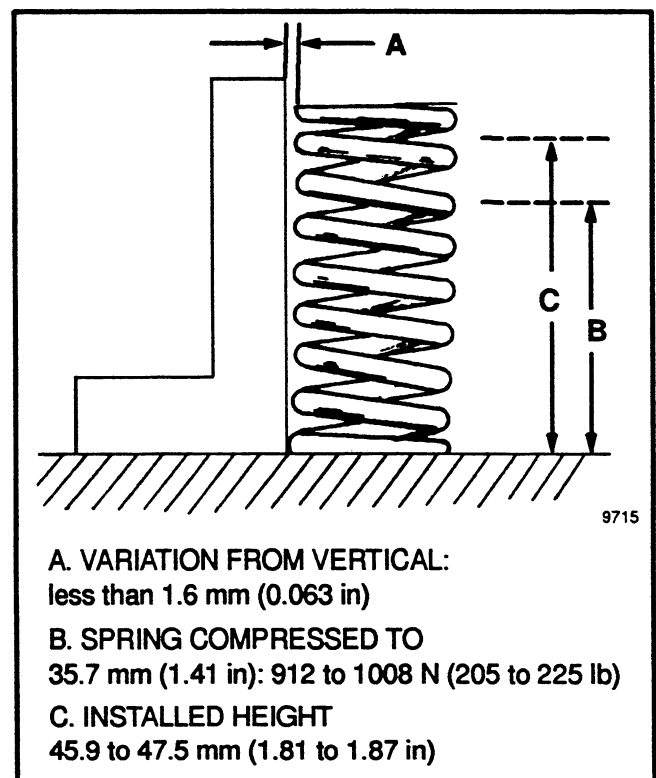
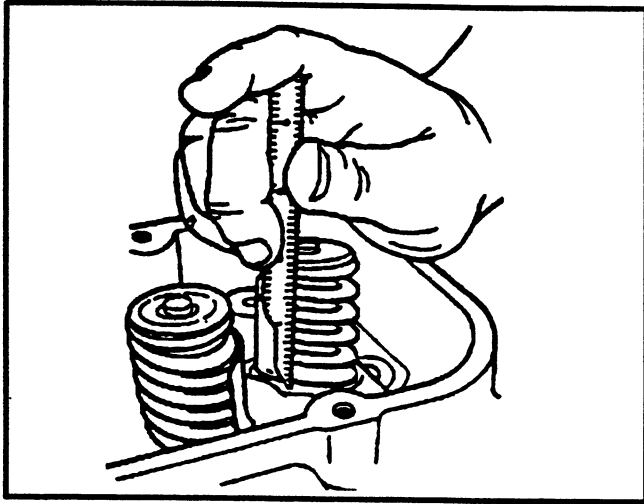

FIGURE 13. VALVE SPRING SPECIFICATIONS
FIGURE 14. MEASURE THE VALVE SPRINGS
### Valve Springs (See FIGURE 13.)
Use a special tool to check the tension of the valve springs. Compress the spring to the correct height and check the tension. For the correct specifications, see FIGURE 13. Replace valve springs that are not within specifications.
1. Install each valve in the correct port. Lubricate the valve stem with engine oil. Install the rotator and oil seal on the valve. Install the spring and cap. Using a spring compressor, compress the assembly and install the retainers. Measure the height of the valve spring as shown in FIGURE 13. and FIGURE 14. Measure from the spring seat to the top of the spring. Install shims under the rotator to get the correct height shown in FIGURE 13. The installed height of the valve spring must not be less than the minimum height.